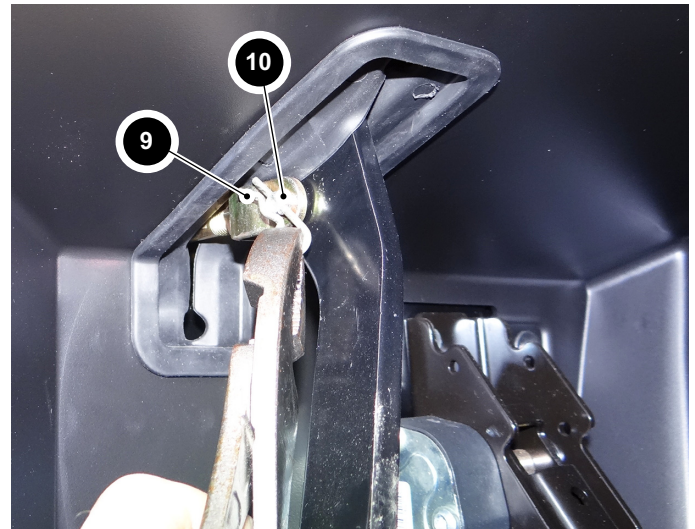

Fig. 9 Disconnect Brake Pedal
- Disconnect the brake pedal from the master cylinder push-rod by removing cotter pin (9) and clevis pin (10) from the brake pedal (Ref. Fig. 9).